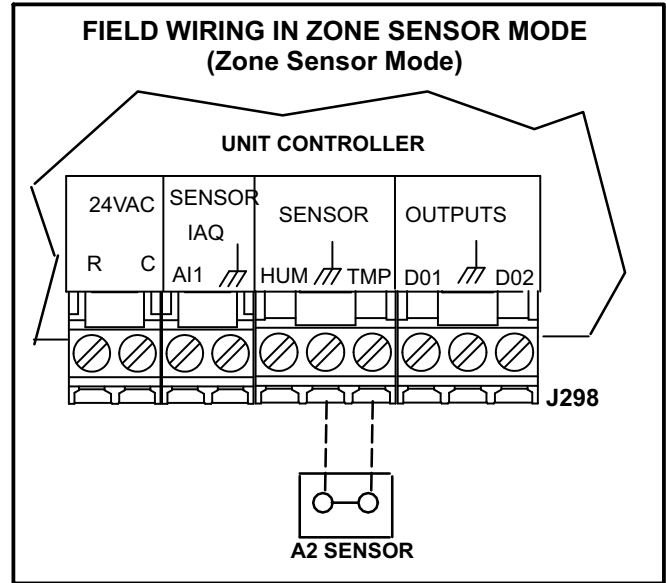
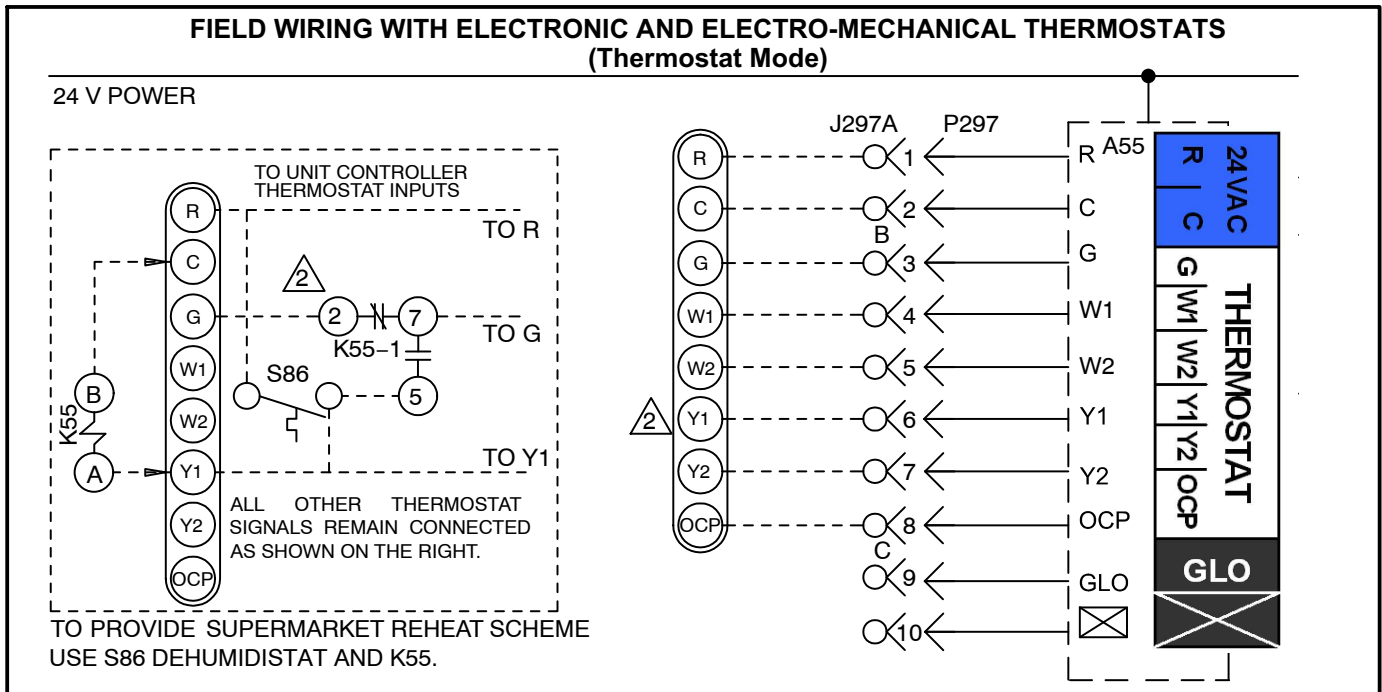
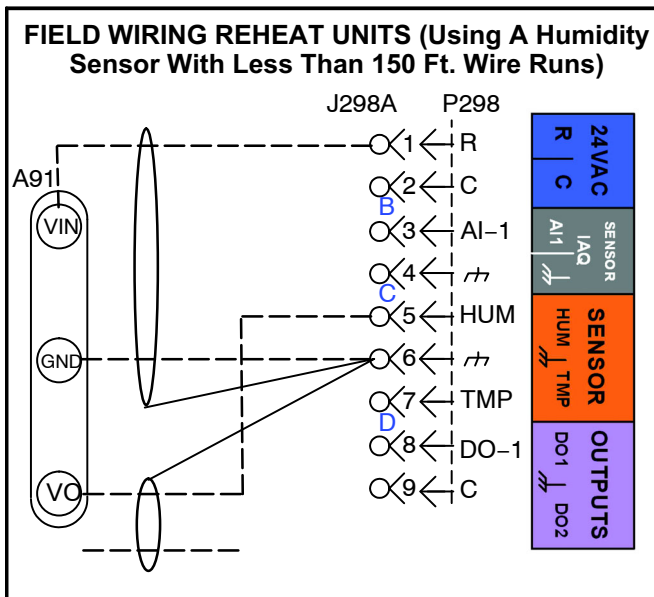

FIGURE 15
FIGURE 16
FIGURE 17
- 4- Wire as shown in figure 16 for electro-mechanical and electronic thermostats. If using other temperature control devices or energy management systems see instructions and wiring diagram provided by manufacturer.
The Unit Controller will operate heating and cooling based on the Unit Controller internal setpoints and the temperature from the A2 zone sensor. An optional Network Control Panel (NCP) can also be used to provide setpoints. A thermostat or return air sensor can be used as a back-up mode. Make zone sensor wiring connections as shown in figure 15.
- 2- Make wiring connections as shown in figure 16 for Thermostat Mode or figure 15 for Zone Sensor Mode. In addition, connect either a humidity sensor or a dehumidification input. See figure 17 or 18 for humidity sensor wiring or figure 19 for dehumidification input wiring.
Use two separate shielded cables containing 20AWG minimum, twisted pair conductors with overall shield. Belden type 8762 or 88760 (plenum) or equivalent. Connect both cable shield drain wires to the Unit Controller as shown in figure 17.
Use two separate shielded cables containing 18AWG minimum, twisted pair conductors with overall shield. Belden type 8760 or 88760 (plenum) or equivalent. Connect both cable shield drain wires to the Unit Controller as shown in figure 17.